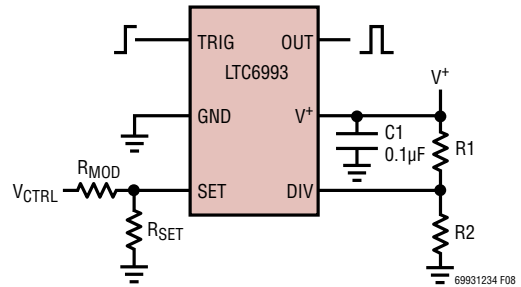

Figure 8. Voltage-Controlled Pulse Width
With one additional resistor, the LTC6993 output pulse width can be manipulated by an external voltage. As shown in Figure 8, voltage V_{CTRL} sources/sinks a current through R_{MOD} to vary the I_{SET} current, which in turn modulates the pulse width as described in Equation (3).
Following a $2\times$ or $0.5\times$ step change in I_{SET} , the output pulse width takes approximately six master clock cycles ($6 \cdot t_{MASTER}$) to settle to within 1% of the final value. An example is shown in Figure 10, using the circuit in Figure 8.